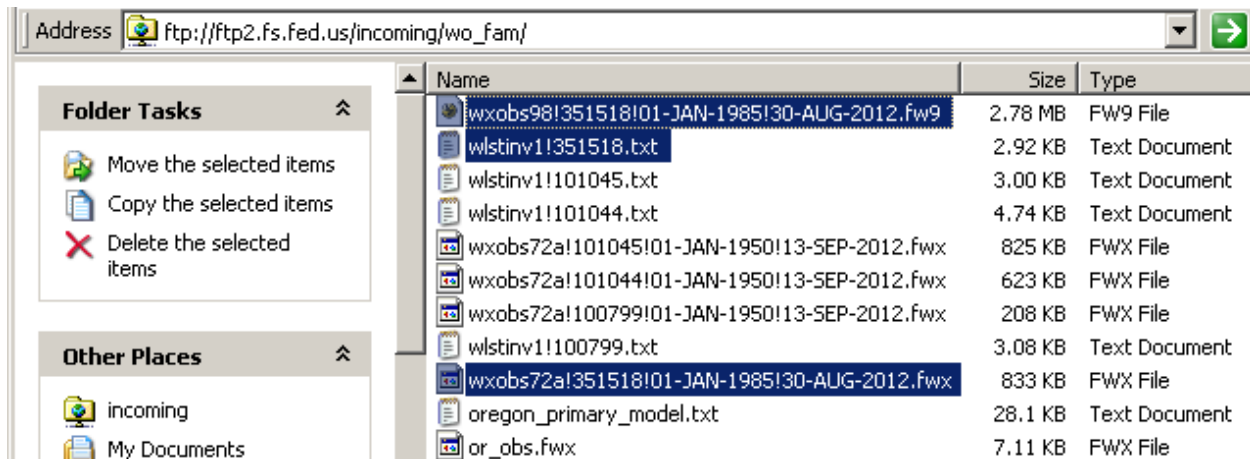

Figure 3-7—Data on the FAMWEB ftp site, with the files for the Eden RAWS highlighted.
- 2) Open a new Windows Explorer window and type the ftp address (ftp://ftp2.fs.fed.us/incoming/wo_fam/) in the *Address* bar then click the **Go** button (white arrow in the green box) to the right (fig 3-7). It is easier to find the files requested using Windows Explorer than the ftp site through Internet Explorer because you can sort the data.
*If your windows explorer window does not look like figure 3-7, change the view to “Detailed.”